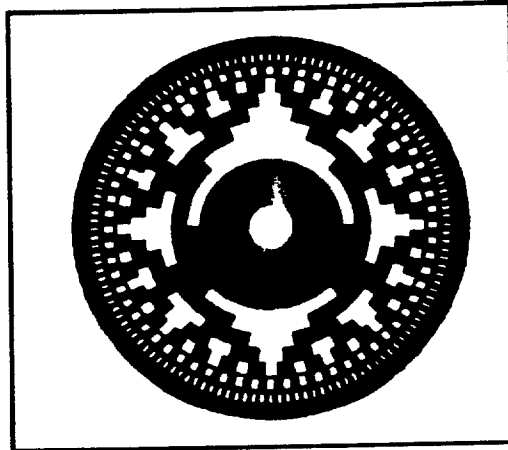
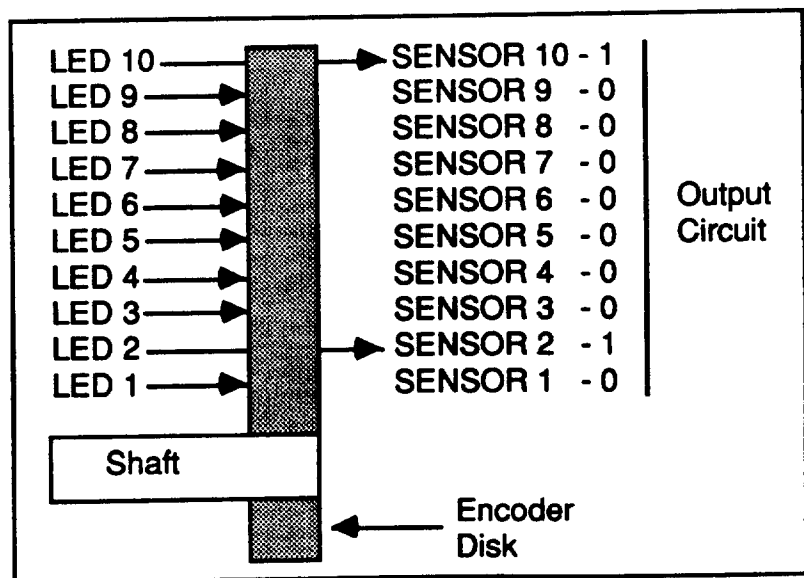
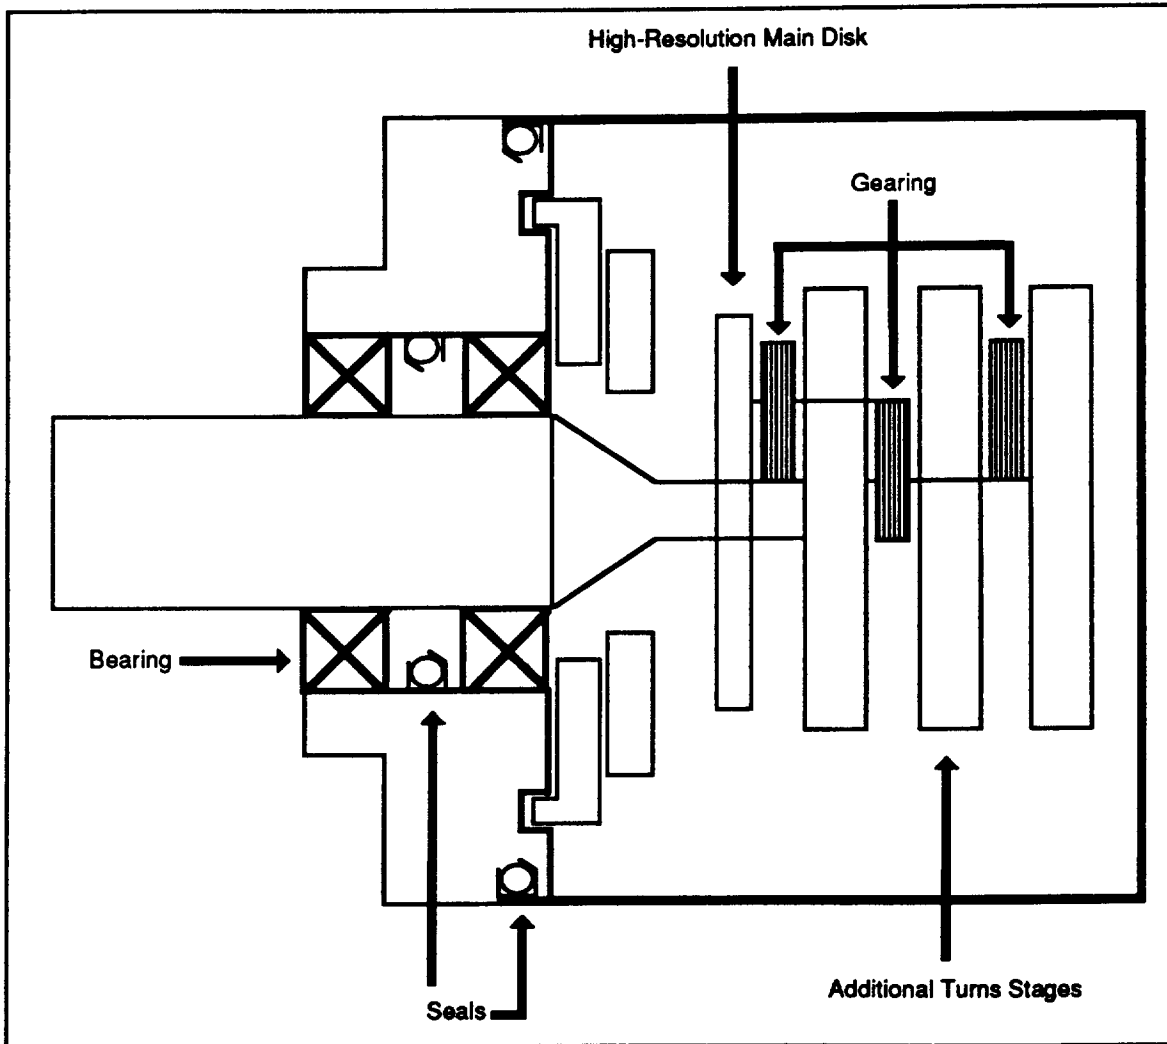

Figure 1-1. Absolute Encoding Disk
Figure 1-2. Cross-Section Sensing Circuit
Figure 1-3. Cross-Section of Multi-Turn AR23 Encoder
The output data is obtained when light shines through a disk and is detected by a photo-transistor. Figure 1-1 is a top view of this disk (where the light sources will be aimed). The disk is constructed of metal and is arranged in concentric tracks. Each track has an independent LED, and photo-transistor parallel to the disk. This encoder disk has each track phased in a binary ratio to the next. The inside tracks are coarser, and the outside track has the finest resolution.
Figure 1-2 provides a cross-sectional view of the LED and sensors in relation to the disk. The only moving device is the disk, which is attached to the shaft. As each LED passes an opening on the disk, it causes current to flow to the output circuit. The output circuit is then in a high state. The lights that are blocked by the track have no current flow to the output circuit, which causes a low state. The output circuit then assigns a number for these high and low states. A high signal is assigned with a one (1) and a low signal is assigned with a zero (0). Each high or low (1 or 0) value per light is referred to as a bit. Most encoders use ten tracks on the encoding disk to obtain ten bits of positional data. With the AR23, redundancy encoding is employed, which eliminates uncertainty between positions. In this case, only mechanical motion is allowed to change the position. This is commonly referred to as redundant gray code. This form of encoding has been developed by Compumotor using the disk shown in Figure 1-1.
You can obtain multi-turn information with the construction shown in Figure 1-2 and gearing up the primary encoder disk. As in the AR23, three additional geared disks are added to increase the amount of position data. By adding three 8:1 (8 x 8 x 8) geared disks, the absolute travel increases to 512 turns. Figure 1-3 depicts an AR23 with multi-turn geared disks added.